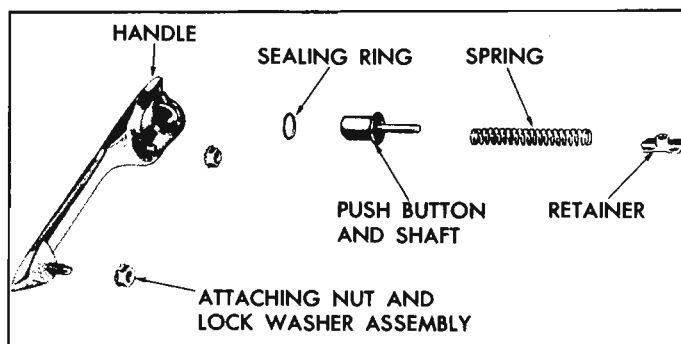

Fig. 10-60—Front Door Outside Handle Disassembled
- Depress retainer slightly and turn retainer one-quarter turn. Remove retainer, spring, push button and shaft and sealing ring from handle (fig. 10-60).